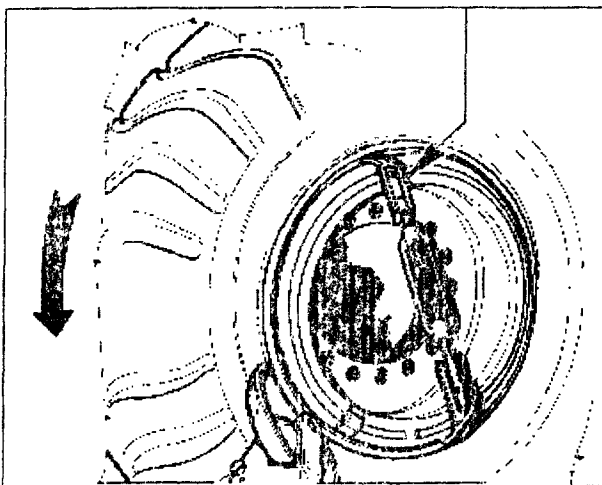

Fig.39
2. Position the tool close to the rim edge (Fig.39).